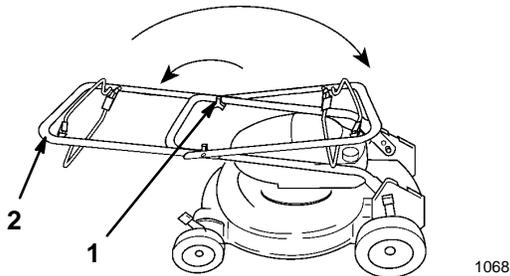

Figure 1
1. Loosen the handle knobs and lift the top handle half in an arc until the handle halves are in line and nest together (Fig. 1).